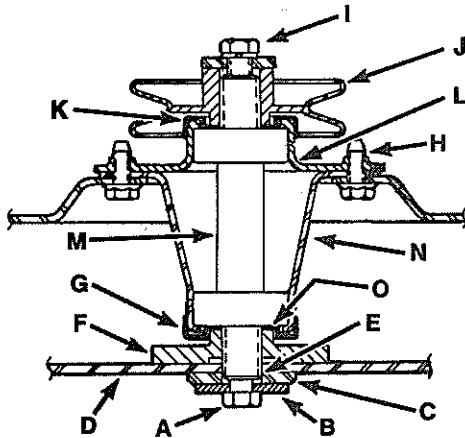

Figure 6-11
### 13. SPINDLE ASSEMBLIES: MODELS 30036S, 31036S, 14003 & 14004. Figure 6-11
- Remove center bolt (A, Figure 6-11) and washers (B) and (C).
- Remove blade (D) and blade collar (E).
- Slide off blade adapter (F), shield (G) and spacer (O).
- Remove mounting screws (H) and pull spindle assembly up through mower base hole.
- Disassemble sheave (J) by removing bolt (I), lock washer and flat washer.
- Remove shield (K).
- Remove top housing (L) & spindle shaft (M).